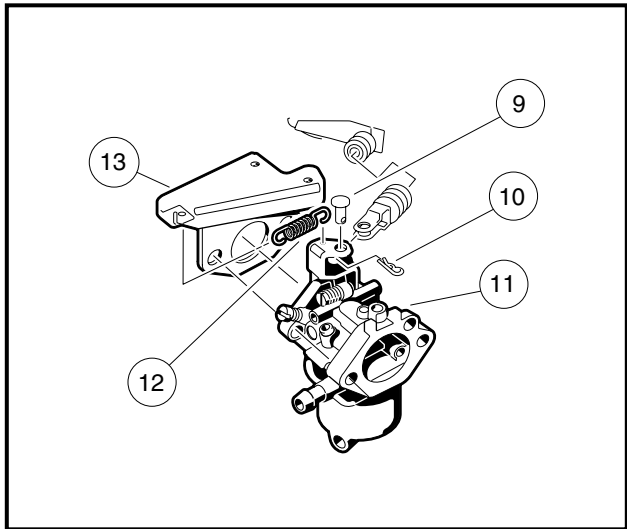

Figure 13-40 Governor Cable Connection
6. Install carburetor (11), throttle spring (12) and the throttle spring bracket (13). Tighten to 50 in-lb (5.6 N·m) (Figure 13-40, Page 13-22).
9. Install governor cable clevis pin (9) through cable clevis and throttle valve, and install a new cotter pin (10) (Figure 13-40, Page 13-22).